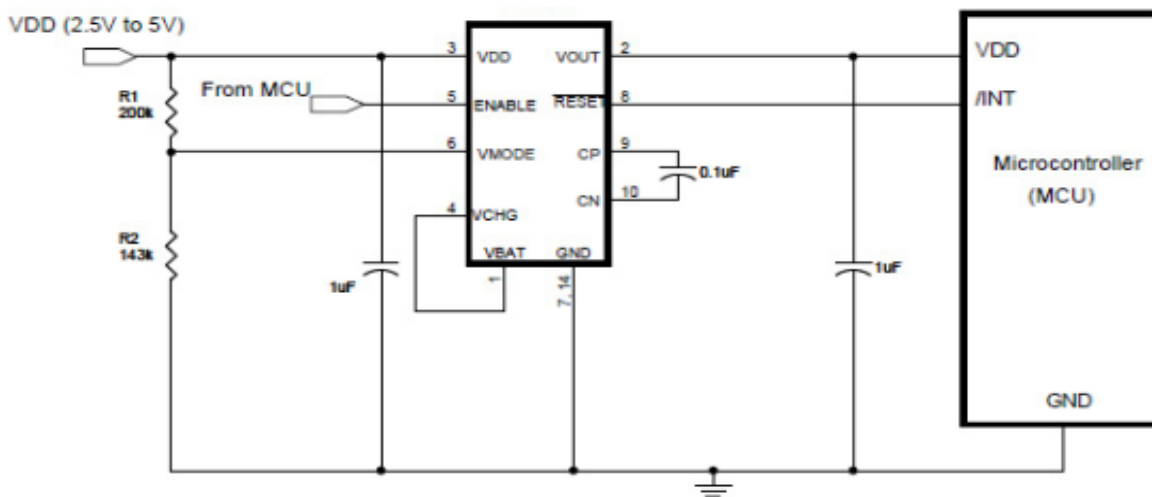
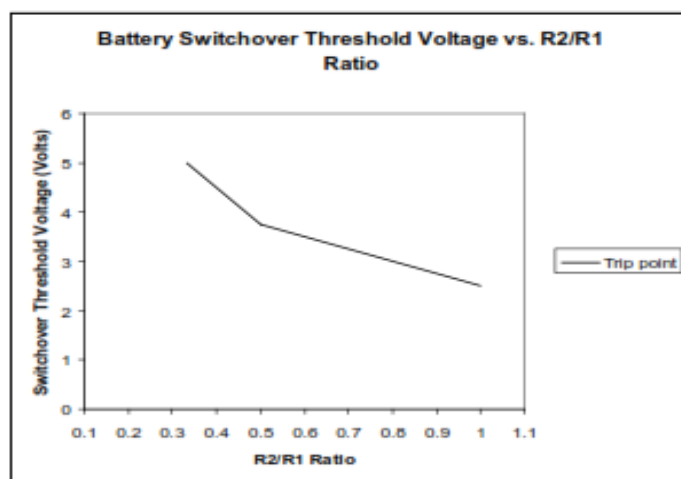
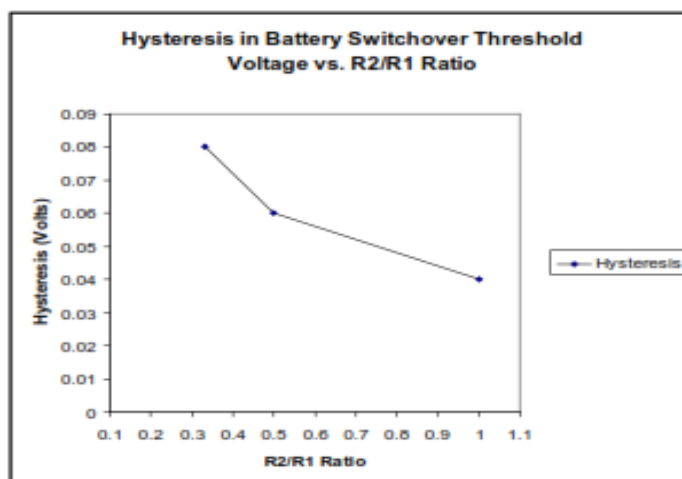

Figure 7: CCBC3112 Typical Circuit for Mode 2 Operation
Figure 8. Mode 2 Resistor Selection Graph
Figure 9. Mode 2 Hysteresis as a Function of R2/R1
(2) Users- selectable trip voltage can be set by placing a resistor divider from the V_{MODE} pin to GND. Refer to Figure 8.
(3) The hysteresis is a function of trip level in Mode 2. Refer to Figure 9.
Figure 7 shows the circuitry for user-selectable switchover threshold to a value between 2.5 and 5.0 volts. Use Figure 8 to determine the value of R1. To determine the amount of hysteresis from the EnerChip™ switchover threshold, use Figure 9.
EnerChip™ charging and backup power switchover threshold for 2.5 to 5.5 volt operation is selected by changing the value of R2 (see Figure 7). To determine the backup switchover point, set the value of R1 to 200kΩ and choose the value of R2 according to Figure 8. For example, to set a 3.0V trip point: If $R1 = 200\text{ k}\Omega$ then $R2 = R1 \times 0.72 = 144\text{ k}\Omega$. Figure 7 shows a Mode 2 circuit with standard value resistors of 200kΩ and 143kΩ.
To determine the backup switchover hysteresis for Mode 2 operation, use Figure 9.